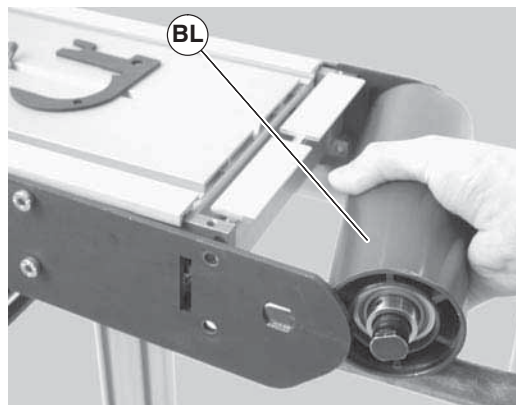

Figure 55
- Remove the pulley shaft assembly: remove the clip ring (Figure 55, item BM) and washer (BN) from one side of the pulley assembly.